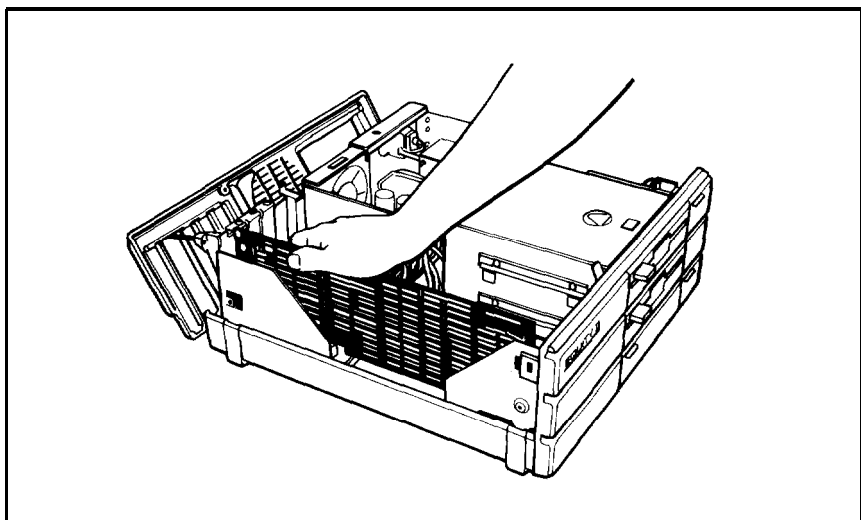

Figure 5-4. Option card installation
4. Slide the card into the slot as shown in Figure 5-4, placing the tab at the bottom of the retaining bracket into the corresponding notch at the back of the computer.